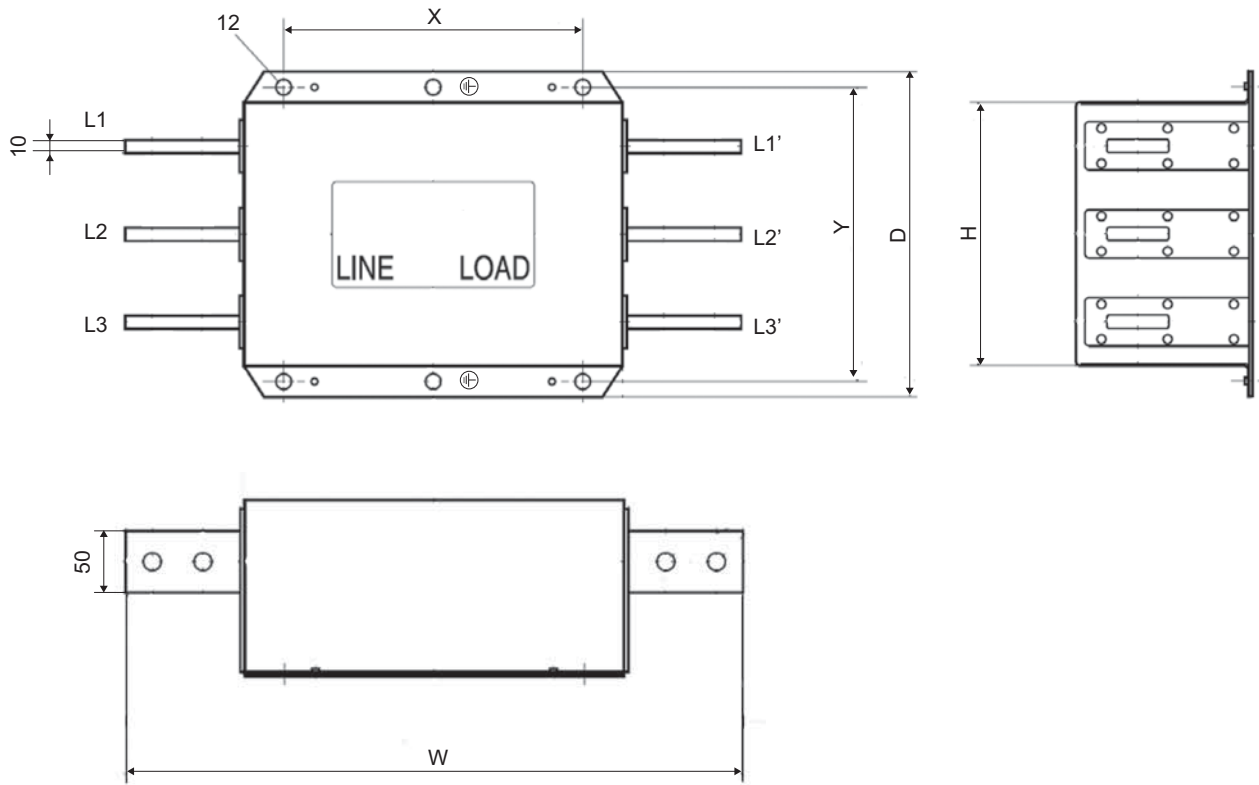

Figure D.17 EMC Filter Dimensions (4A0630)
| 4A0630 | B84143B1600S080 | EPCOS | 1600 | 24.5 (54) | 490 × 140 × 260 (19.3 × 5.5 × 10.2) | 235 × 240 (9.3 × 9.4) | Figure D.17 |